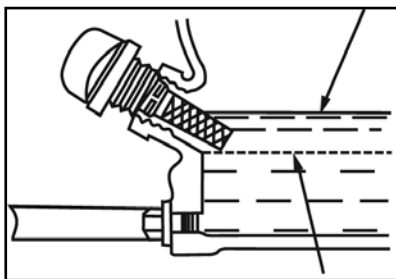

Fig 6. Engine Oil Dipstick (Oil Level)
4. If the engine oil level is low (Figure 6), fill to the edge of the oil filler hole with the recommended oil type listed in the table below.